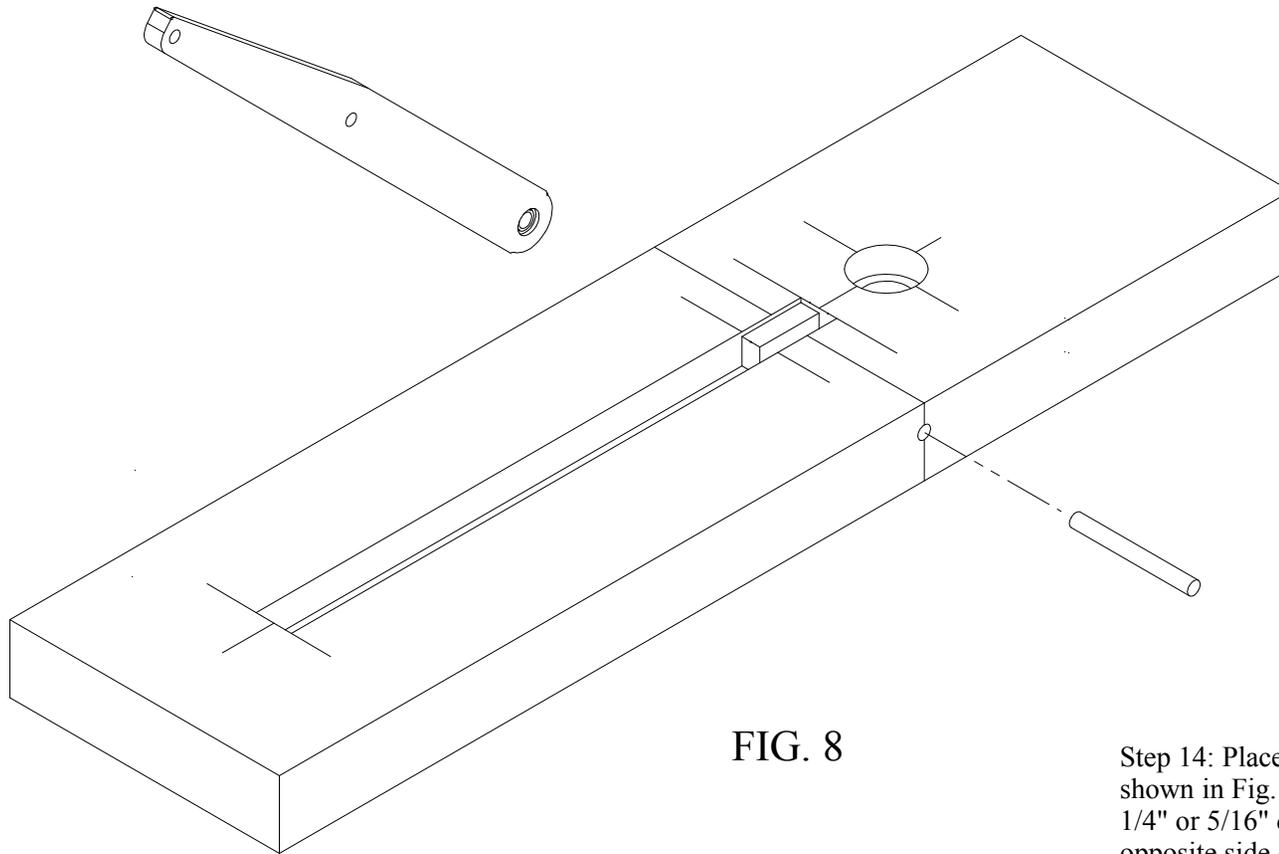

**FIG. 6**
Step 9: Use a chisel to square up the bottom of the mortise, the mortise step and the top of the mortise as shown in Fig. 6.